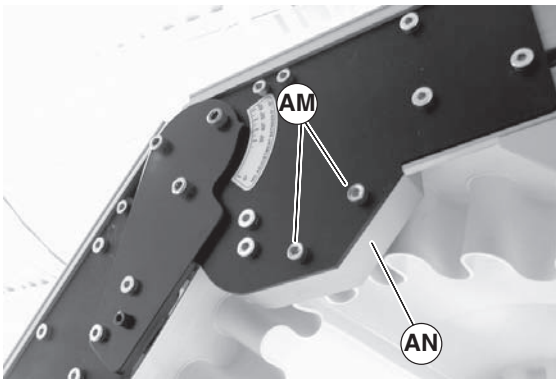

Figure 85
1. Remove screws (Figure 85, item AM) on both sides of knuckle and remove guard (AN).